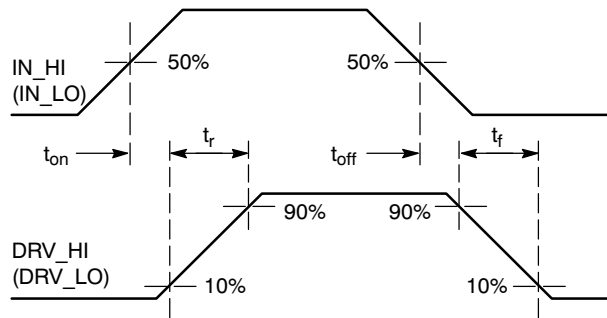

Figure 5. Propagation Delay and Rise / Fall Time Definition
5. Timing diagram definition see Figure 5 and Figure 6.